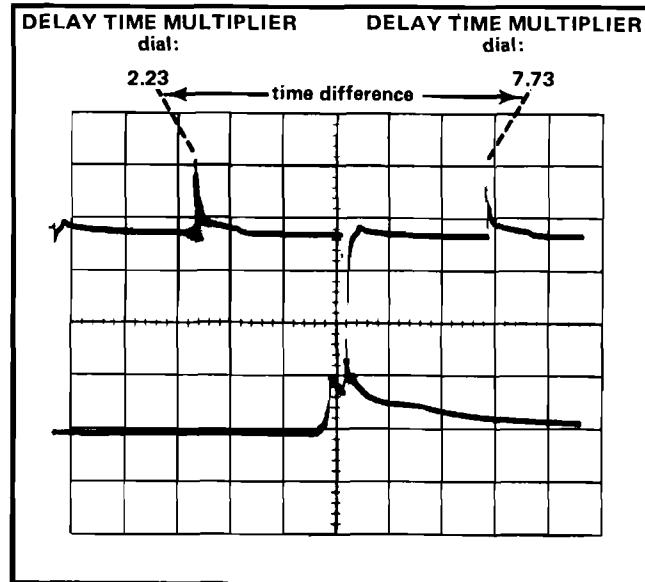

Fig. 2-12. Measuring time difference using delayed sweep.
2. Set the VOLTS/DIV selector to produce a display about three divisions in amplitude (see Fig. 2-12).
**Example:** Assume the first dial setting is 2.23 and the second dial setting is 7.73 with the TIME/DIV set to 5  $\mu$ s (see Fig. 2-12).